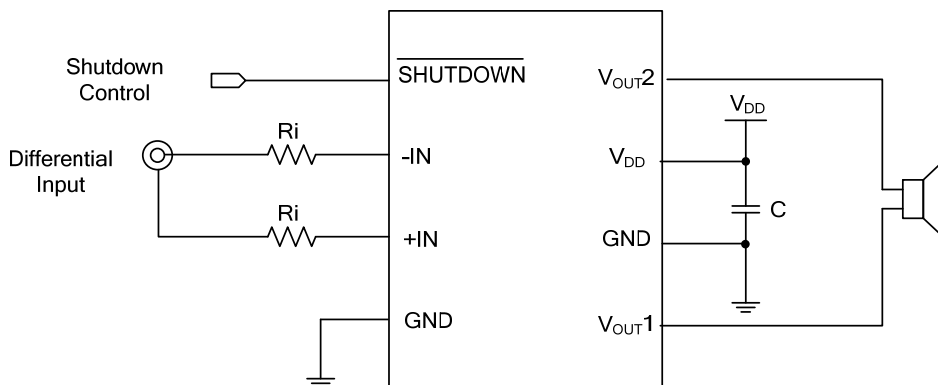

Fig. 3 Differential Input Configuration
The **M4670** can be used in many different circuit configurations. The most typical is the DC-coupled, differential input configuration shown in Fig. 3. Equation(2) above is used to determine the value of the  $R_i$  resistors for a desired gain.